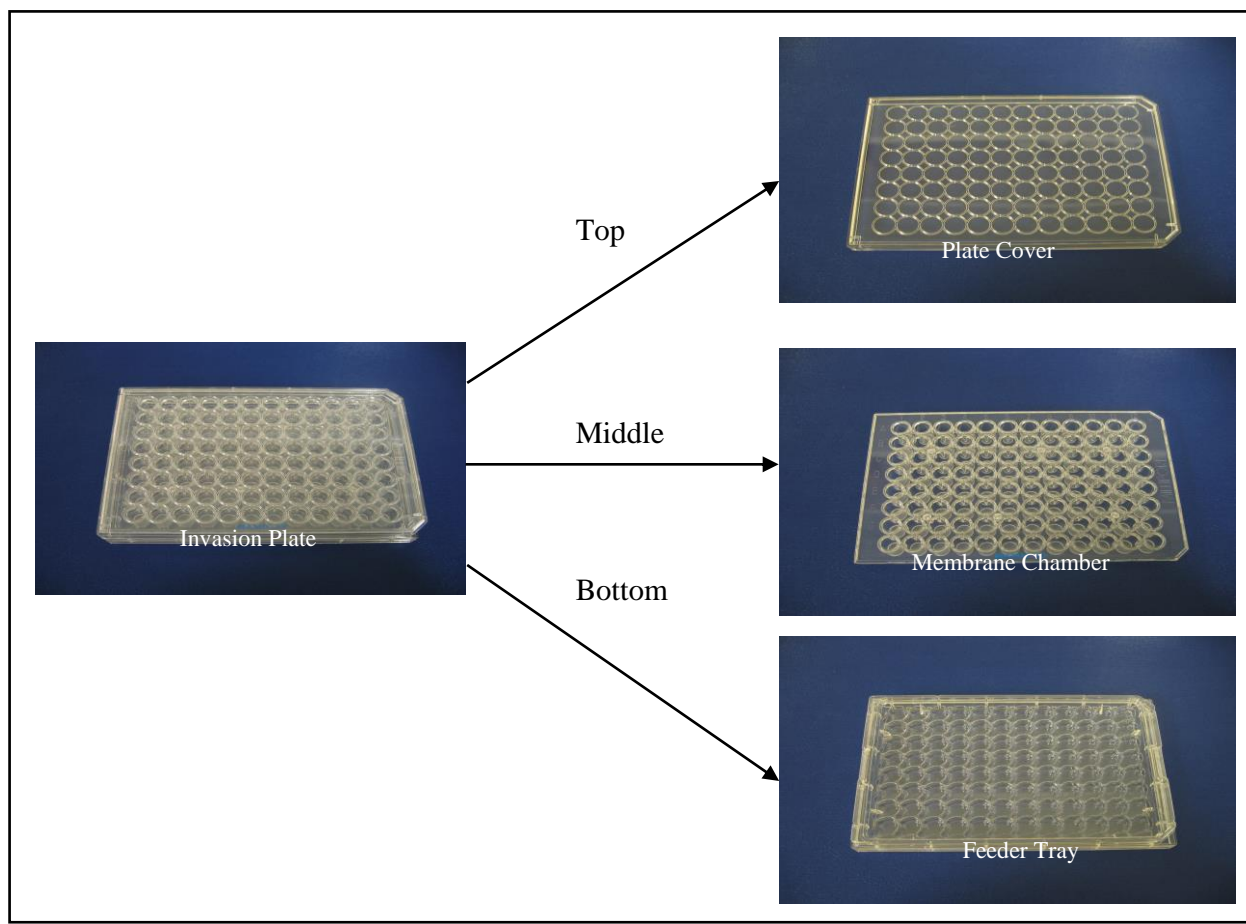

Figure 1: Components of the 96-well Collagen Cell Invasion Plate.
1. 96-well Collagen Invasion Plate (Part No. 111201-COL): One sterile 96-well plate containing collagen-coated inserts (see Figure 1 for components)